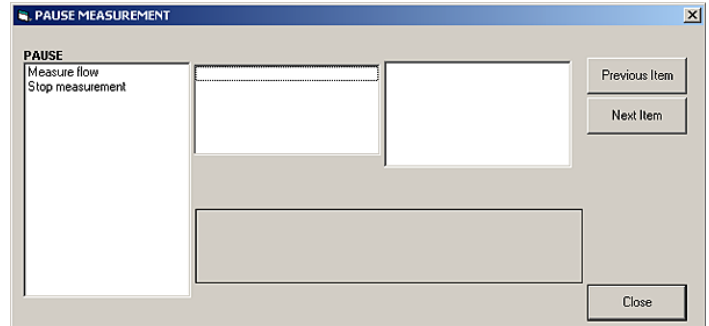

Figure 22: The pause measurement window
2. Expand the *Edit Functions* option, and double-click on the *Pause Measurement* entry to open a window similar to *Figure 22* below.